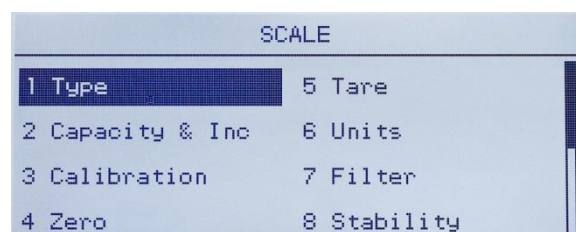

Figure 3-19: Scale Setup Menu, First page
2. With Scale in focus, press **ENTER**, or press the 1 key on the numeric keypad to use the shortcut method. Figure 3-19 shows the first selection of Scale sub-branches.